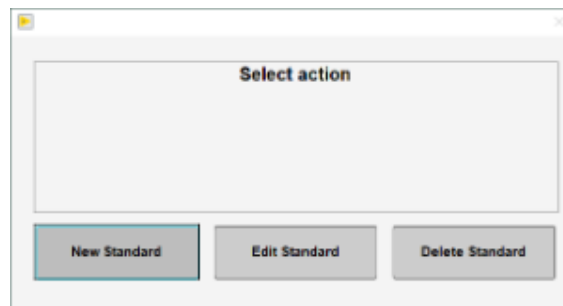

Figure 37. Action Prompt Window
2. Double click on the standard's name under the *Individual Standard's Used* heading. An action prompt will open (Figure 37).